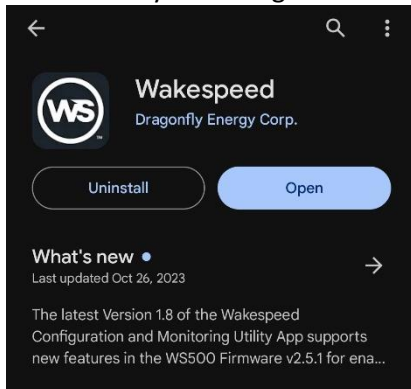

Figure 10
11. Open Wakespeed app on the android device. If it's not installed yet, install the Wakespeed app (see Figure 10) on the device by searching for it in the Google Play store and selecting install.